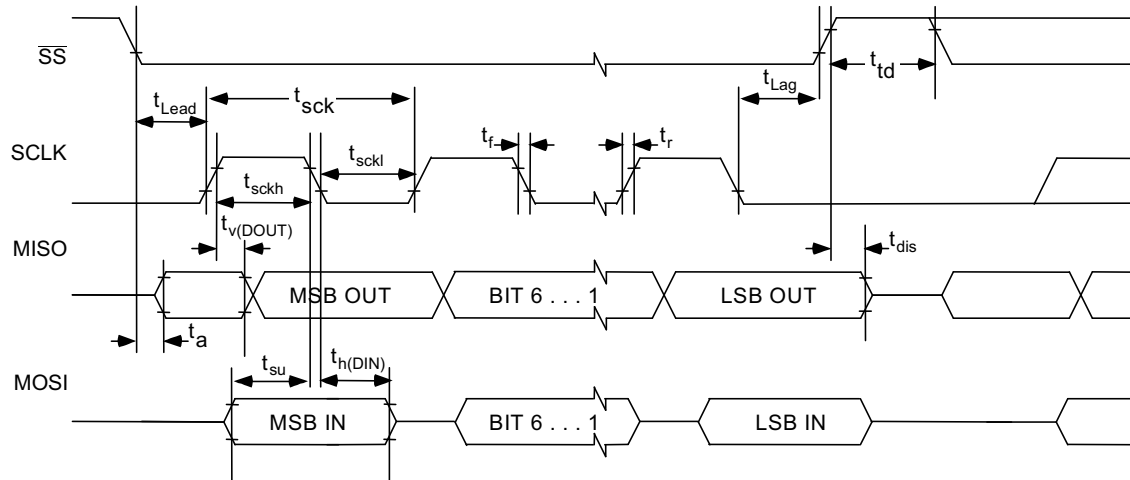

Figure 6. SPI Interface Timing Diagram
6.14 SPI Interface Timing (See Figure 6)